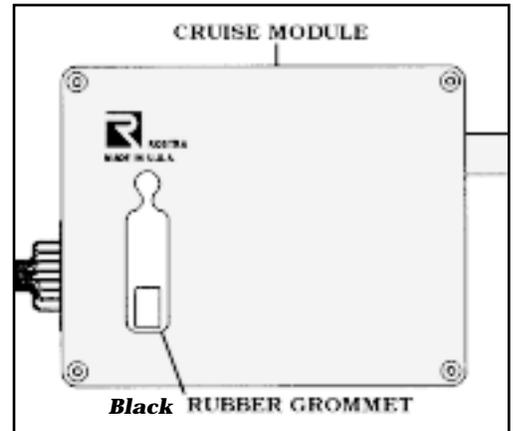

Figure 31
- A. Push Rubber Grommet securely into place on the cover of the **CRUISE MODULE**. **Figure 31**